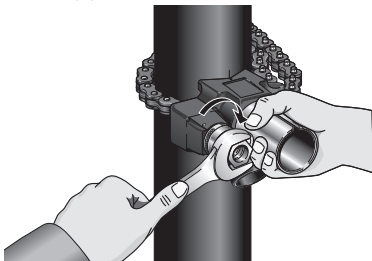

Figure 4 – Mounting the Guide
4. Stabilize and align the drill guide with one hand, while slightly loosening the adjusting nut to allow final positioning. Align the milled slots with the hole centerline marks on pipe, and firmly tighten the adjusting nut with a 1¹/₁₆" (27 mm) wrench (Figure 4). Do not remove your hands from the drill guide until you have confirmed that it is securely attached to the pipe.